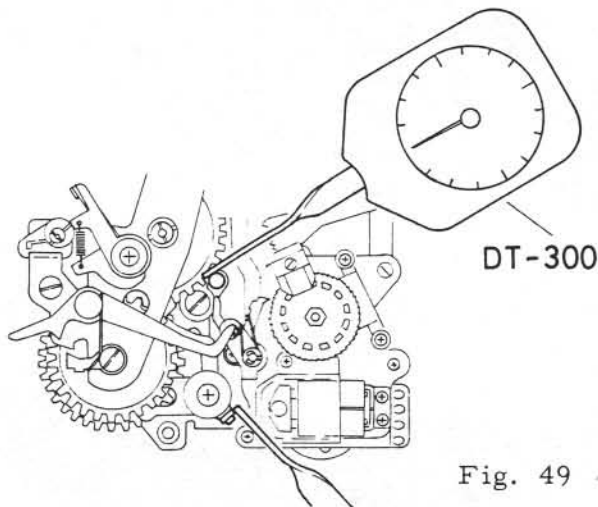

Fig. 49
- ° A Tension gauge must set to the position as shown in Fig. 49. If not, it causes error readings.